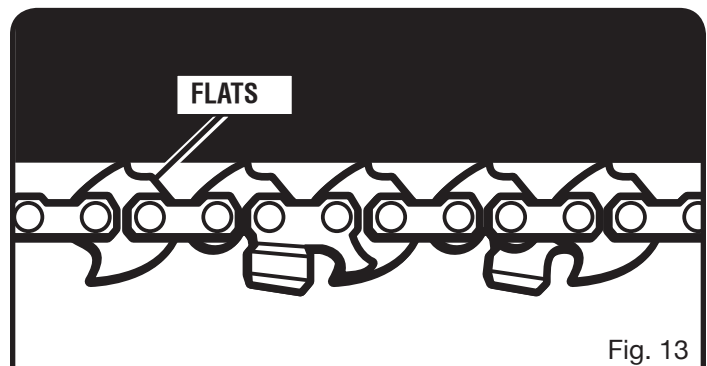

Fig. 13
See Figures 13 - 14.
- Chain must be re-tensioned whenever the flats on the drive links hang out of the bar groove as shown in figure 13.